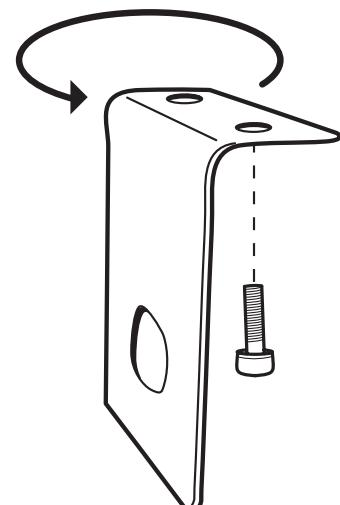

Figure 10
1. Remove the 2 hex screws with a 4 mm hex wrench. See Figure 10.
2. Rotate line cutter. See Figure 10.